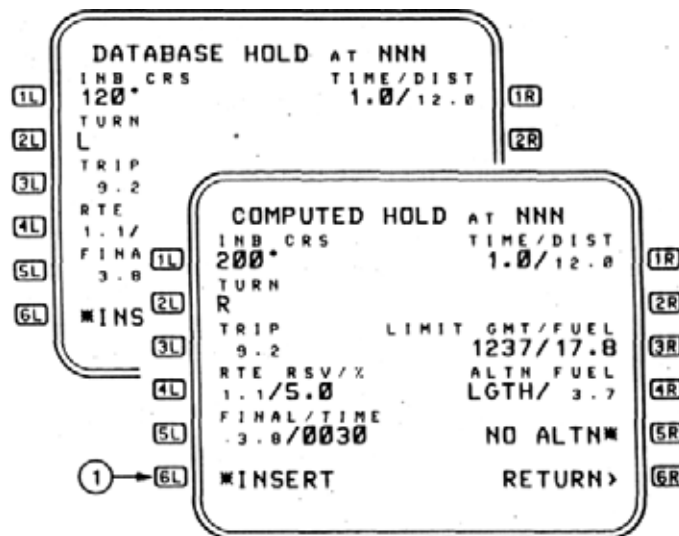

Figure 2-124
1. **DATABASE HOLD AT NNN** - Hold parameters are database derived, are a reflection of published or procedure specified parameters, and have not been changed by the pilot (Figure 2-124).
Figure 2-124 is a combination of a DATABASE HOLD at NNN, and a COMPUTED HOLD at NNN pages.
If the hold page is left prior to activation of the *INSERT prompt, all entered data is erased. Prior to activation of the *INSERT prompt, any entered data can be cleared by the **CLR** function. (**1**, Figure 2-124).
6R RETURN - Pressing this LSK returns the display to the accessing LAT REV page. If the RETURN > prompt is pressed before the*INSERT prompt, all entered data on the page is erased (**2**, Figure 2-124).